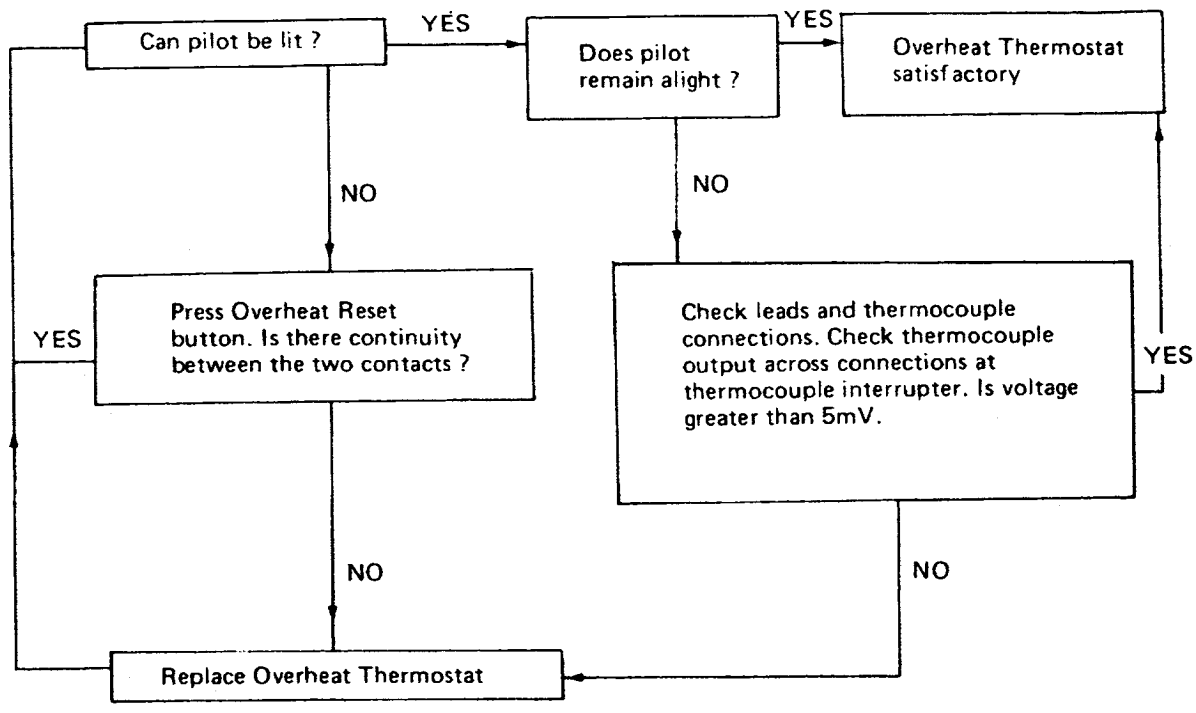

FIG. 18 FAULT FINDING OVERHEAT THERMOSTAT
| A. Pilot fails to light | <p>(1) No gas supply</p> <p>(2) Control knob not pressed fully down</p> <p>(3) Blocked pilot filter</p> <p>(4) Blocked pilot injector</p> <p>(5) Piezo unit not working</p> <p>(6) Electrode or lead damaged</p> <p>(7) Overheat Thermostat not operating</p> | <p>Check all cocks are open in the supply to the boiler</p> <p>Control knob must be pressed fully down.</p> <p>Remove the large hexagon headed plug adjacent to the inlet connection to the valve. Lift out the filter and replace as necessary.</p> <p>Remove and clean the injector as described in Section 8.</p> <p>Check that the striker and plunger mechanism is operating correctly. If the operating mechanism is correct, proceed as follows:— Disconnect the spark lead from the piezo, then place the stripped end of a suitable piece of insulated wire in the piezo, hold the other end of the wire close to the boiler waterway, then operate the piezo and check if a spark is made. If no spark appears, replace the piezo unit. If a spark is made but it does not spark at electrode:—</p> <p>Replace electrode or lead as detailed in Section 8.C or 8.H.</p> <p>(a) Check that reset button is pressed.</p> <p>(b) Check overheat thermostat using procedure given in Fig.18. Replace if necessary as detailed in 8i) or 8ii) Section J.</p> |